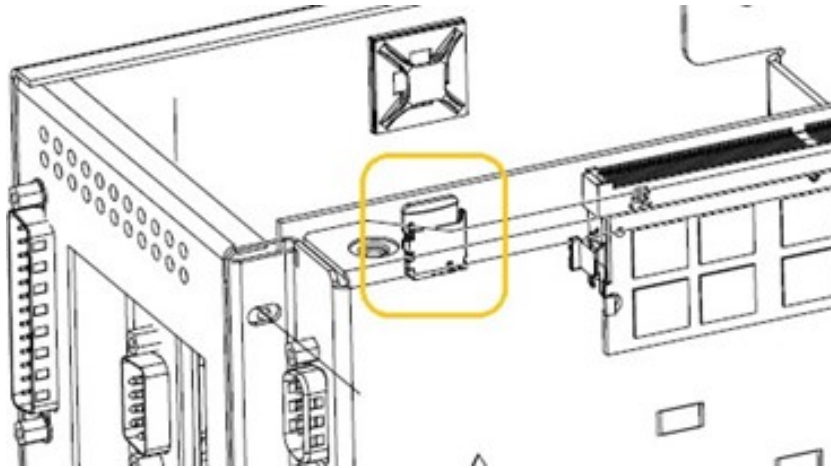

Figure 15 - SD Slot Location in CamBot Brick PC
1. Press down on the Micro SD to eject it from the SD slot shown in **Figure 15**.